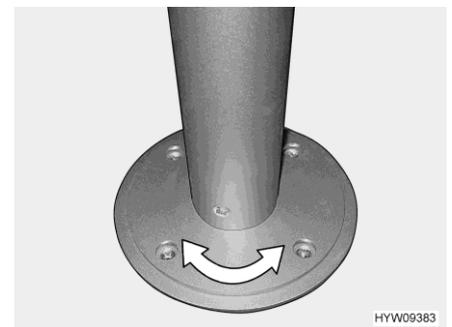

Fig. 88 Pillar table leg (rotatable)
- Rotate table top to the desired position. In order to do this, you need a little effort, because the table top rotates against the friction resistance on the pillar table leg (Fig. 88).